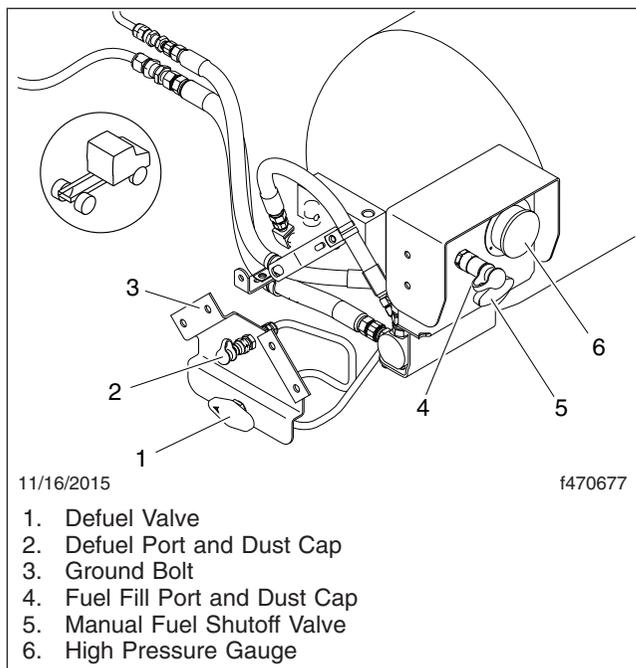

Fig. 18.1, CNG Fuel Panel
3. Ensure the vehicle fuel system manual shutoff valve is open. See **Fig. 18.1**.